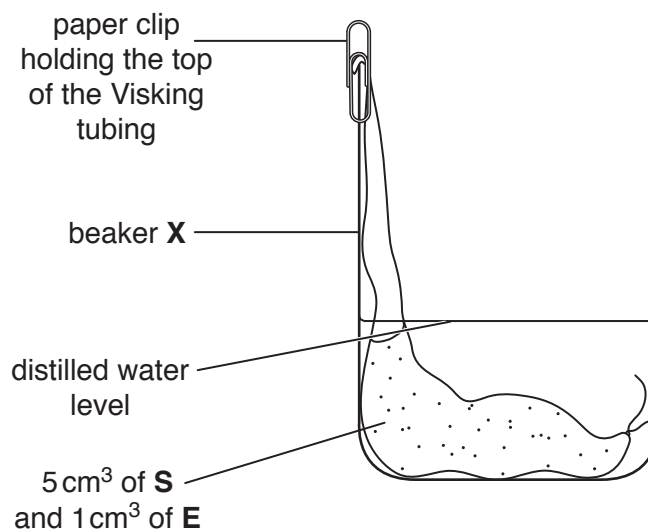

Fig. 1.1
Fig. 1.1 shows the apparatus you will set up for this investigation.
Look carefully at Fig. 1.1. This has been set up so that the volume of water is as small as possible to cover the Visking tubing. The part of the Visking tubing containing the mixture is on the bottom of the beaker.
6. Put the Visking tubing into the beaker, labelled **X**, as shown in Fig. 1.1.
7. Put **W** into the beaker up to the level shown on Fig. 1.1 using a syringe so that you can measure the volume of **W**.
(a) (i) State the volume of **W** needed to reach the water level as shown in Fig. 1.1.